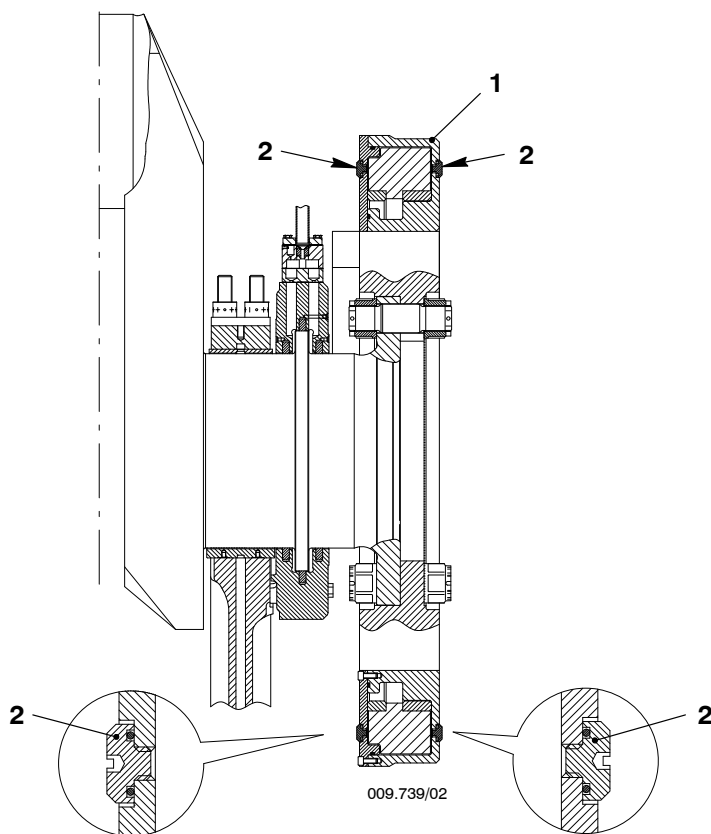

Fig. 1
- 1) Remove the casing from the vibration damper (1, Fig. 1)
- 2) Operate the turning gear to move the crankshaft (1) until a screw plug (2) is horizontally opposite the other screw plug. If this is not possible, a vertically opposite position is satisfactory.
- 3) Carefully clean the area around the screw plugs (2).
- 4) Leave the vibration damper (1) in position for a minimum of two hours.
- 5) Use applicable tools to remove the sealing material from the screw plugs (2).
**Note:** When you do step 6), make sure that the screw plug (2) still makes a seal.
- 6) Carefully loosen the screw plug (2).